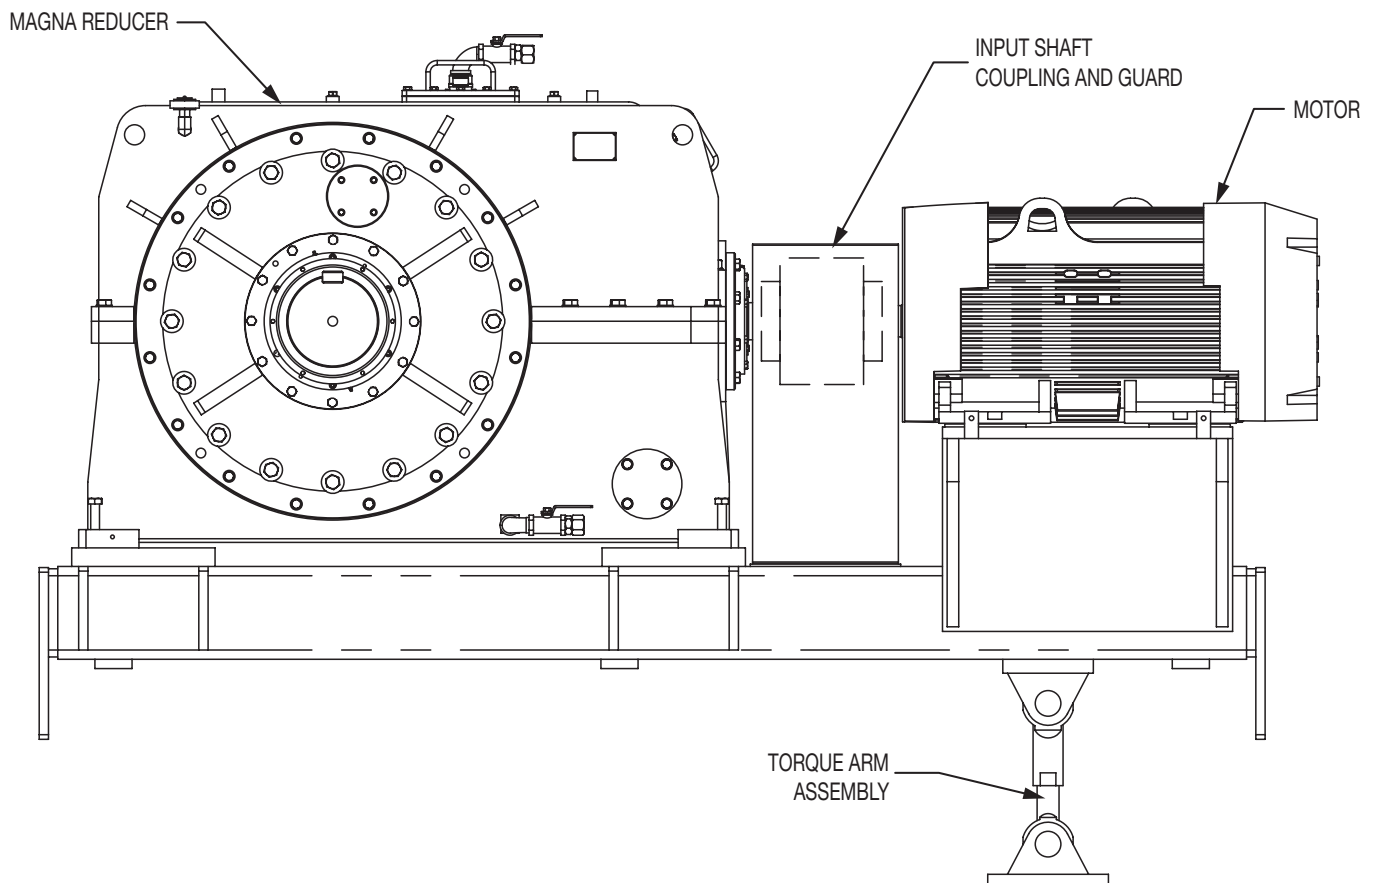

Figure 4 - Typical Swing Base Mounting
The swing base consists of a welded and machined steel structure which supports the reducer and motor assembly. There may be optional accessories mounted on the reducer such as a cooling fan, backstop, couplings, or heat exchanger. See Figure 4 for a typical swing base arrangement.
- Angular alignment is achieved by measuring the gap between the ends of the two coupling hubs in both the horizontal and vertical planes (Fig. 4).